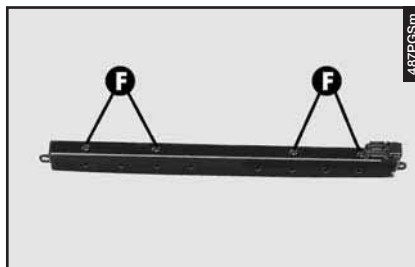

fig. 66
- Slacken the four screws (**F**-**fig. 66**) fastening the transparent cover.
- Refit the transparent cover locking it with the screws (**F**-**fig. 66**).